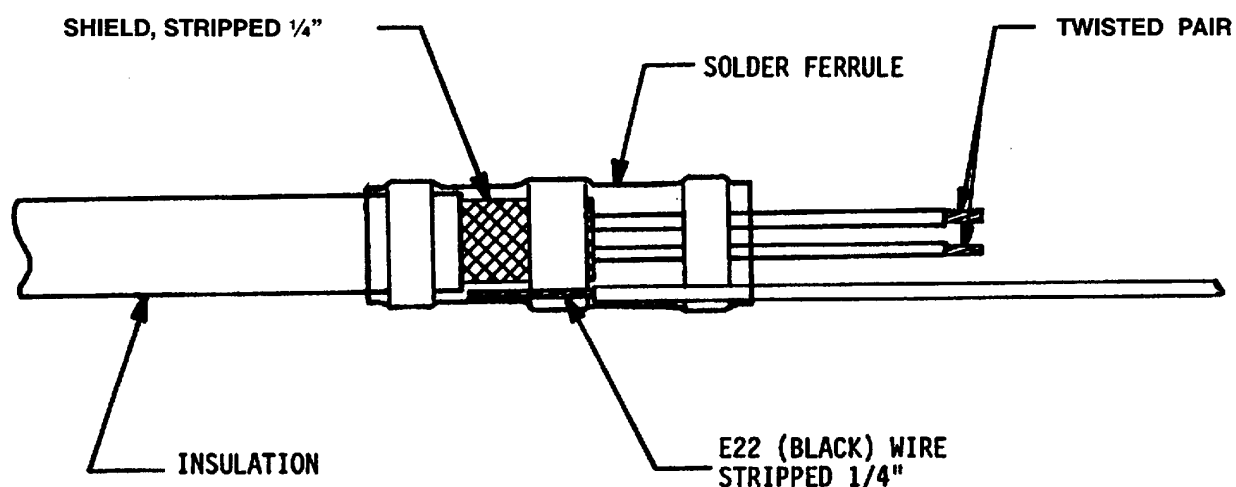

FIGURE 3
- REMOVE INSULATION 1/4 INCH PAST SHIELD. PLACE SOLDER FERRULE OVER SHIELD AND APPLY HEAT GUN UNTIL SOLDER FLOWS. DO NOT MOVE WIRES WHILE HOT. SEE FIGURE 3. TERMINATE WIRE WITH CONTACT PER NOTE 3.